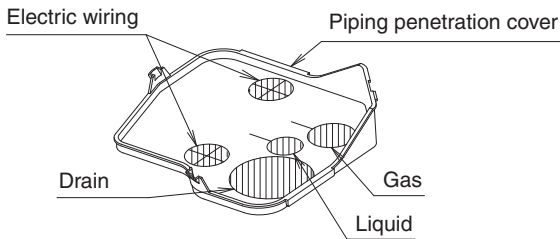

Fig.19
- In case of upward piping, remove the piping penetration cover, make holes for penetrating piping by cutting the cover with a cutter such as scissors. After having the piping go through the cover, attach the cover to the indoor unit. (Refer to Fig. 19)